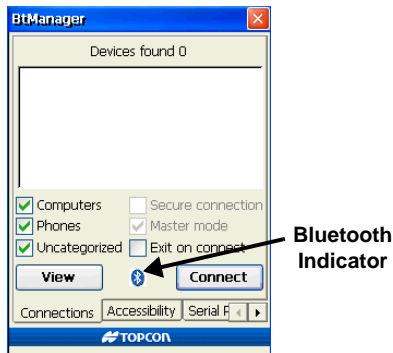

Figure 3-3. BTManager Connected with GMS-2 Port
2. On the GMS-2 control panel, double-tap the BTManager icon. When BTManager starts, it immediately begins scanning GMS-2 ports to use for establishing a connection with the internal Bluetooth module (the Bluetooth indicator will be red). Once a connection has been established, the Bluetooth indicator will turn white (Figure 3-3).